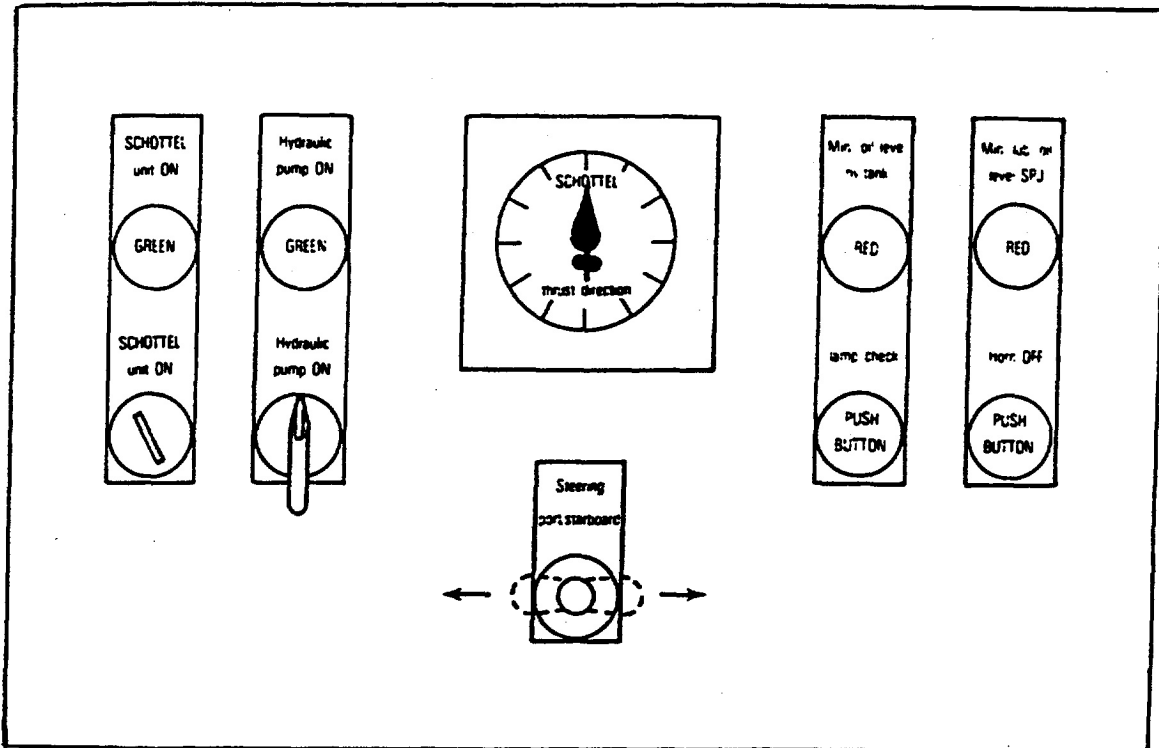

FIGURE 1-6. Pilothouse Control Panel.
d. Pilothouse Interface. (FIGURE 1-6). The pilothouse is the primary control station for operating the bowthruster waterjet. The pilot steers the bowthruster by right or left hand pressure on the joy stick control lever on the Bow Ramp, Winch, Thruster Control Console. This lever activates steering gear hydraulics to turn the waterjet casing clockwise or counterclockwise depending on the command. When released, the steering control joy stick returns to the neutral position and the casing is mechanically locked at the angle shown on the thrust direction indicator. Engine and clutch controls and displays are discussed in the bowthruster engine manual. Console controls and displays for the waterjet are listed below. For additional details on the console refer to TM 55-1905-223-10 the operator's manual for the LCU. (See Appendix A.)